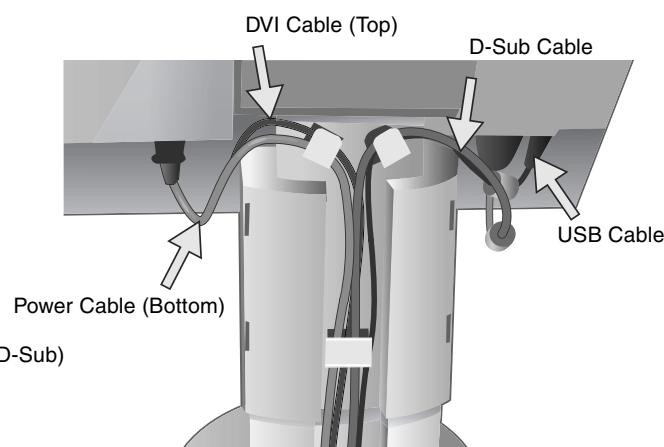

Figure C.2
5. For successful cable management, place the cables in this order into the cable management: Power cable, DVI cable, D-Sub cable and USB cable (**Figure C.2**).